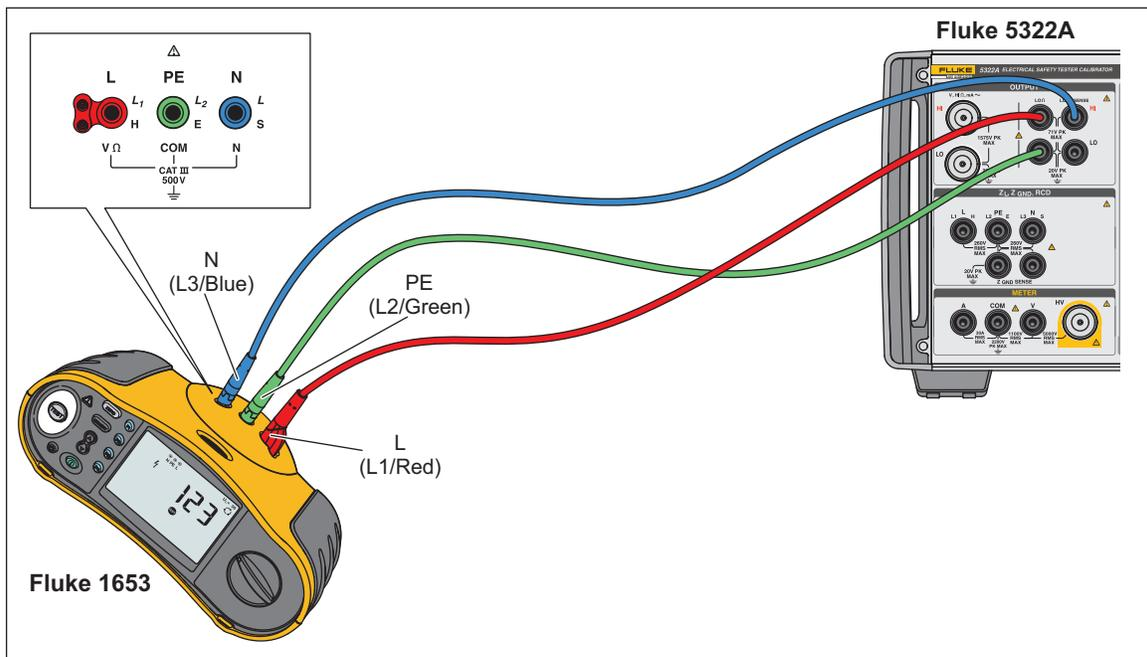

Figure 31. Earth Resistance Calibration Connections
2. Using Figure 31 for a reference, connect the DUT to the Product's **LO Ω HI** and **LO** terminals as well as the **LO Ω Sense HI** terminal.